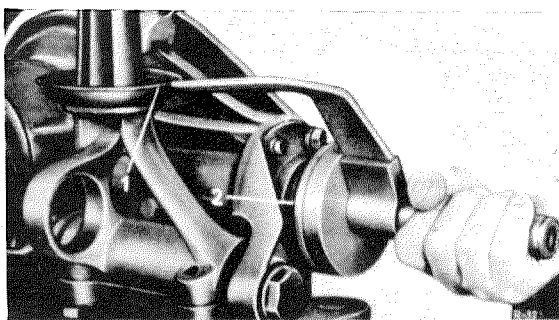

Fig. 35 — 1/6
Since in practice this distance is difficult to measure, place the gage against the universal joint flange (2) and against the front edge of the cup (1) (Fig. 35 — 1/6).